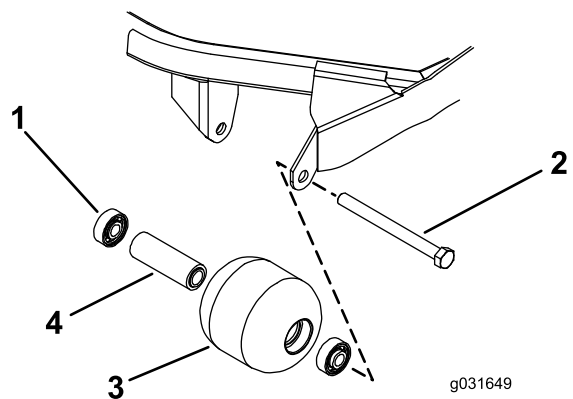

Figure 69
1. Remove the roller-mounting bolt (Figure 69).
4. Inspect the roller housing, bearings, and bearing spacer for damage (Figure 69).
1. Pressing on the outer race only or equally on the inner and outer race, press the first bearing into the roller housing (Figure 69).
2. Insert the spacer (Figure 69).
3. Pressing on outer race only or equally on the inner and outer race, press the second bearing into the roller housing until it contacts the spacer (Figure 69).